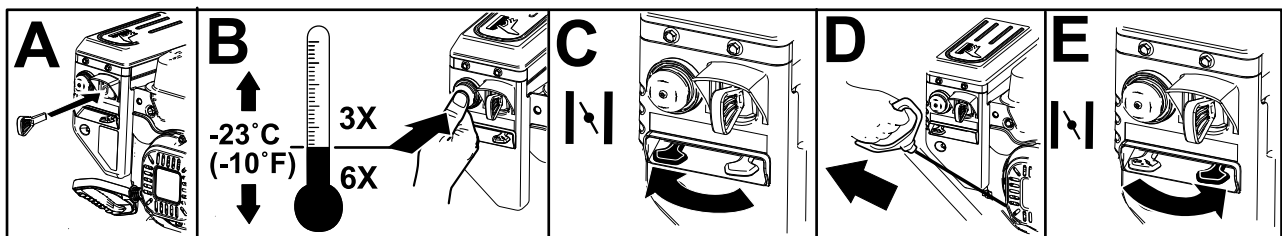

Figure 11
**Note:** Prime the engine (refer to B of Figure 11) according to the following table: